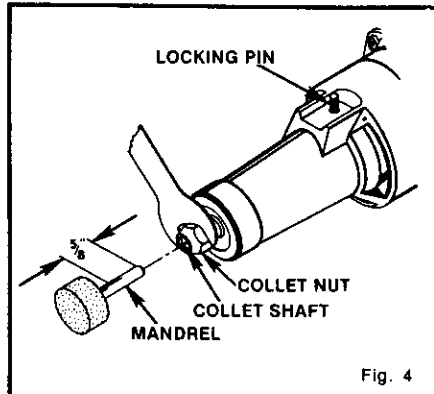

Fig. 4
1. See Fig. 4. Press collet shaft locking pin and turn shaft until pin engages into hole in shaft.